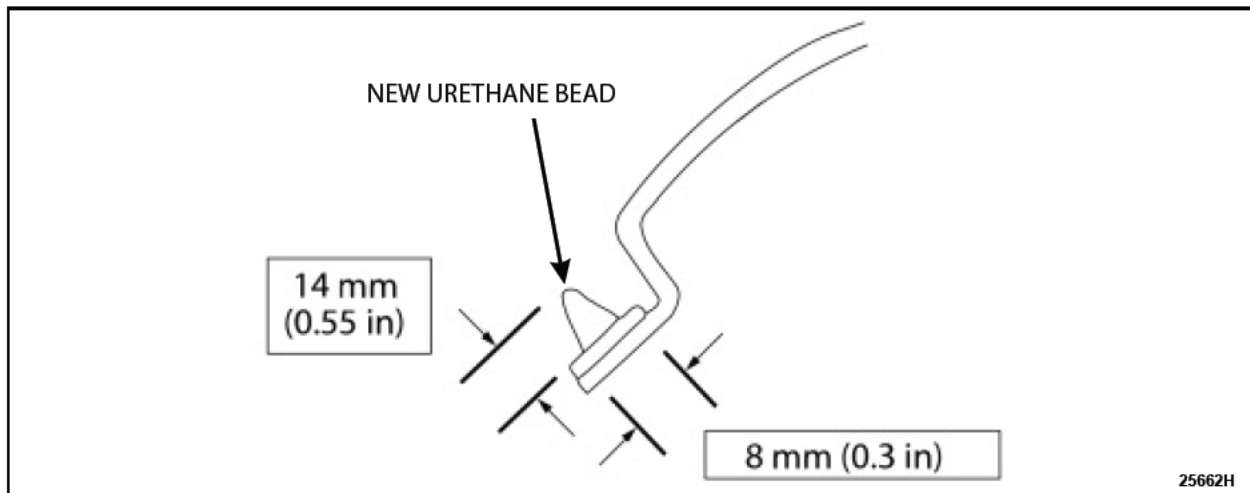

FIGURE 4
9. Apply a urethane adhesive bead. See Figure 4.